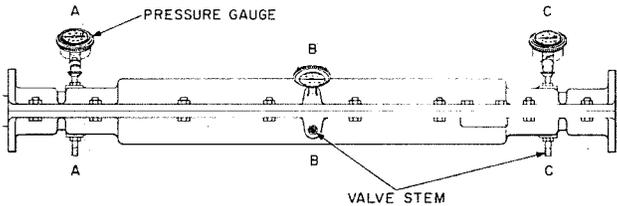

Fig. 23—Valve and Gauge Placement
4.01 Flash testing is done after closing and sealing the splice, using the flash testing material approved for use with the type of cable sheath involved. Place gauges and valve stems on the cases as shown in Fig. 23.